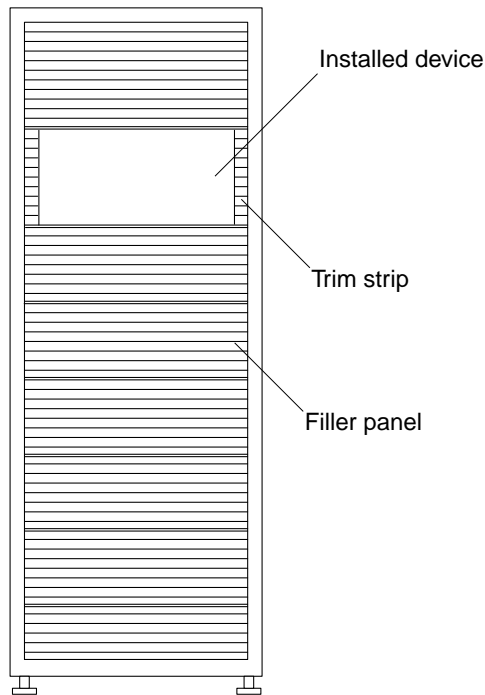

FIGURE 4-1 Filler Panel and Trim Strip Installation
4. **Remove the filler panel that covers where you will install the device (FIGURE 4-1).**
9. Install the trim strips (FIGURE 4-1).
2. Remove the trim strips beside the device (FIGURE 4-1).
5. If you will not be reinstalling the device, install a filler panel over its previous location (FIGURE 4-1).